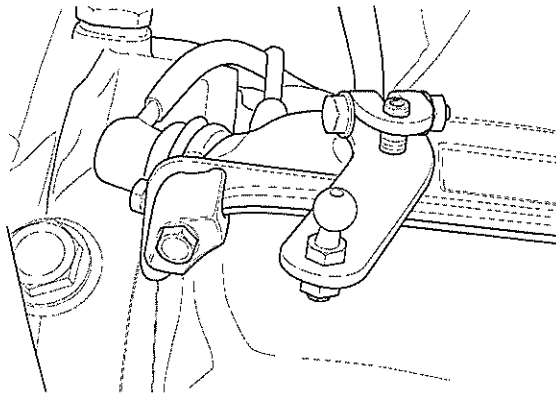

Fig 8 Starter cut-off switch
- 13.2 Loosen screw and remove with spring washer and retaining plate (see Fig 8).